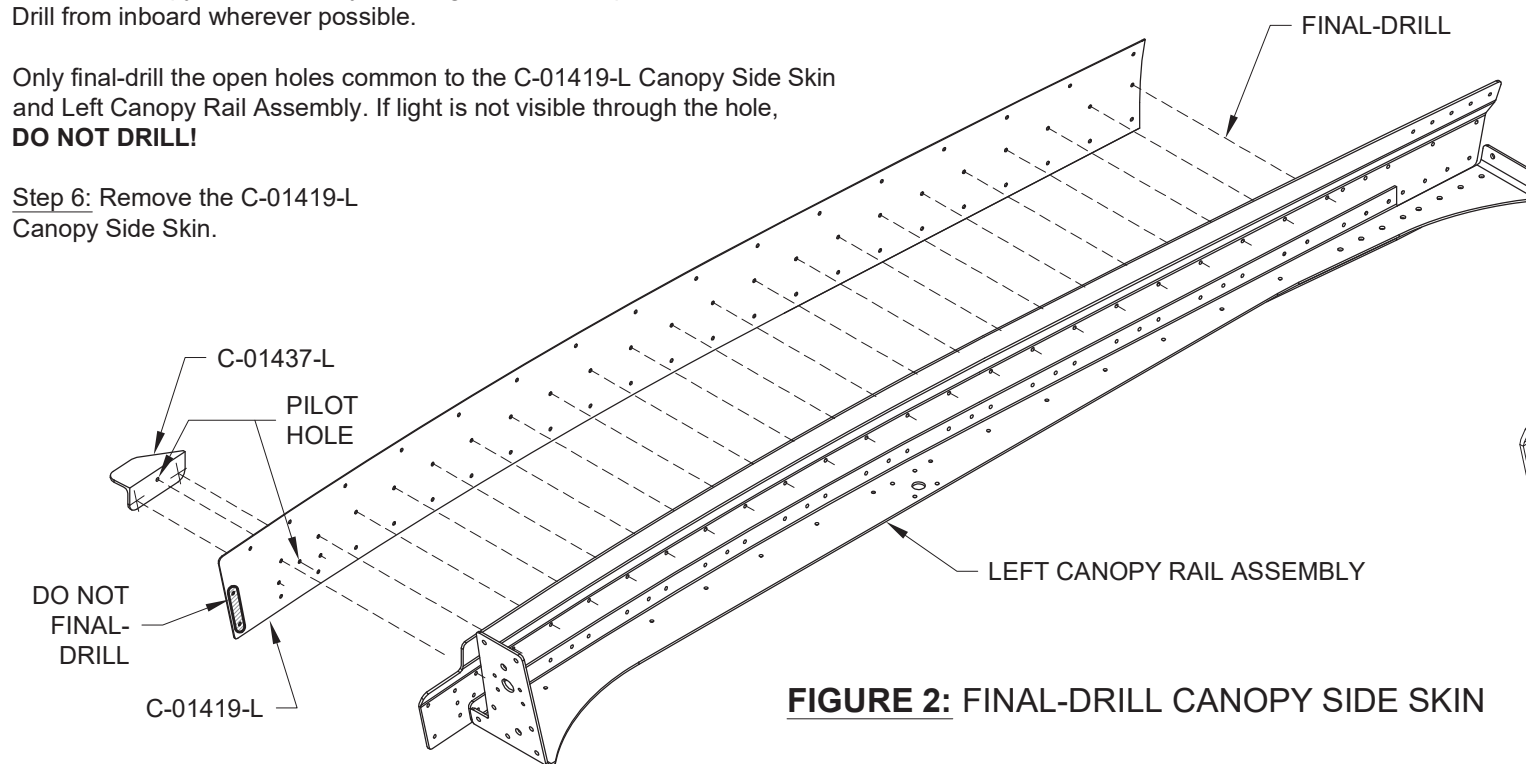

FIGURE 2: FINAL-DRILL CANOPY SIDE SKIN
Step 5: Final-Drill #40 the holes common to the C-01419-L Canopy Side Skin and Left Canopy Rail Assembly. See Figure 2 for exceptions. Drill from inboard wherever possible.